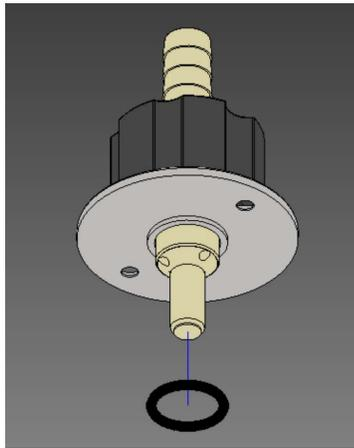

FIGURE F. 17. - O-RING INSTALLATION
7. Install the O-ring onto the stem. Do not roll O-ring, as this may damage the O-ring. Gently work the O-ring onto the stem (see Figure F. 17.)